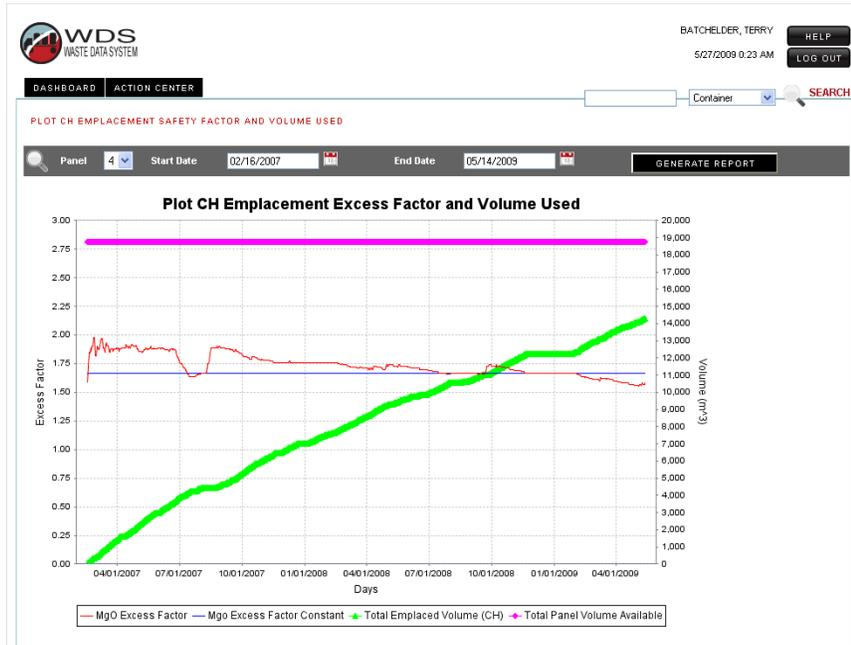

Figure 6-9 - Plot CH Emplacement Safety Factor and Volume Used
6.5.1 Select the **Year** as shown in Figure 6-9.
6.5.2 Select **Start Date** as shown in Figure 6-9.
6.5.3 Select **End Date** as shown in Figure 6-9.
6.5.4 Select the **Generate Report** button as shown in Figure 6-9.